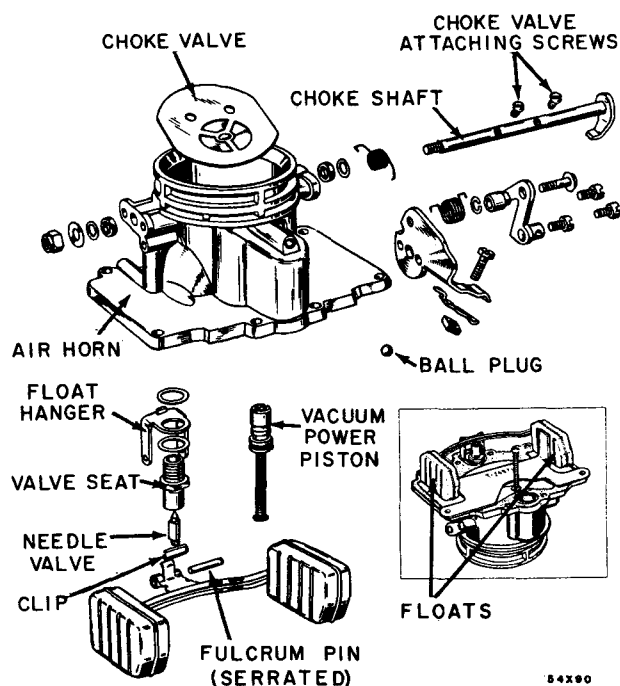

Fig. 10 — Air Horn Assembly (Disassembled View)
With air horn assembly inverted and resting on air horn flange, as shown in inset in Figure 10, press out float fulcrum pin. Remove float with needle valve, clip and air horn gasket. Remove needle valve seat, gaskets and float hanger (use socket Tool 73602 with socket handle Tool 73609).
c. Air Horn (Refer to Fig. 10)